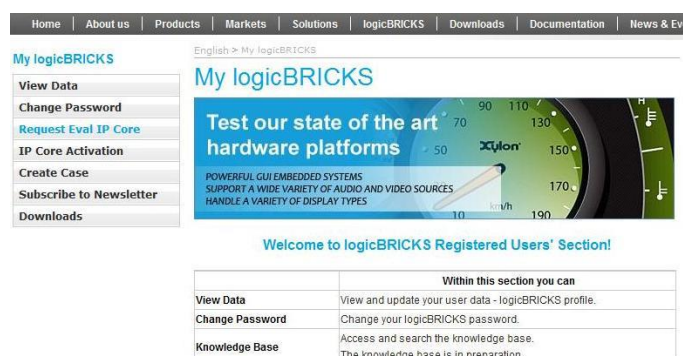

Figure 15: Step 1 – My logicBRICKS Navigation Page
Step 1 – Logged-In users get the “My logicBRICKS” tab in the main www.logicbricks.com navigation menu. Click on it, and you will be directed to your main web page for communication with Xylon logicBRICKS –Figure 15. Please select the “**Request Eval IP Core**” tab in the left menu.